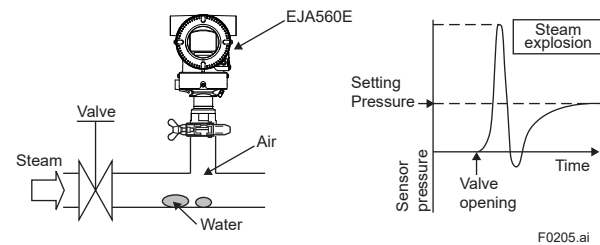

Figure 2.5 Steam Explosion by Steam and Water Contact
- Steam explosion by steam and water contact (Figure 2.5)